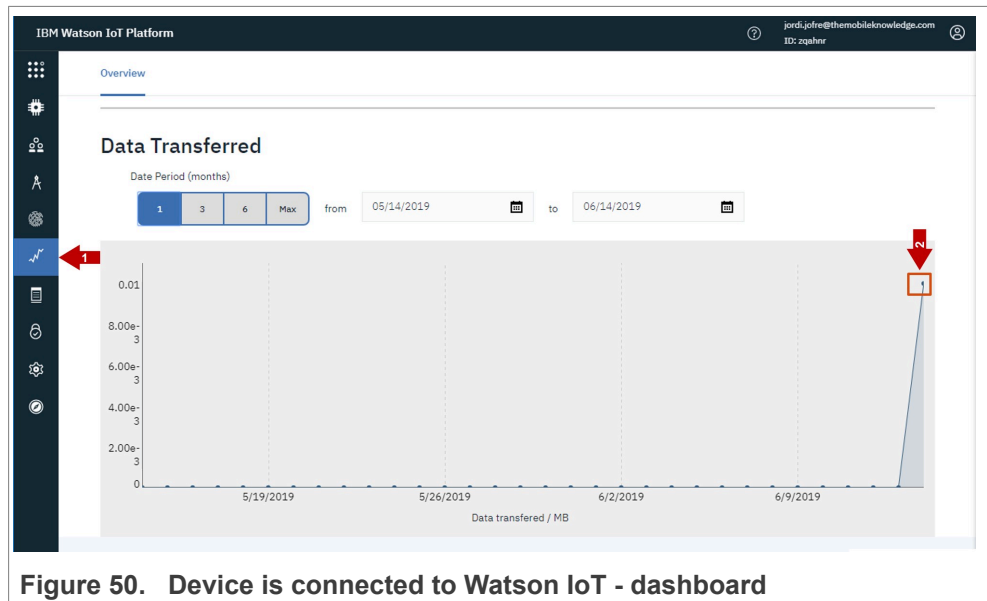

Figure 50. Device is connected to Watson IoT - dashboard
- b. Checking the last time the device was seen in the Watson IoT dashboard as shown in Figure 50